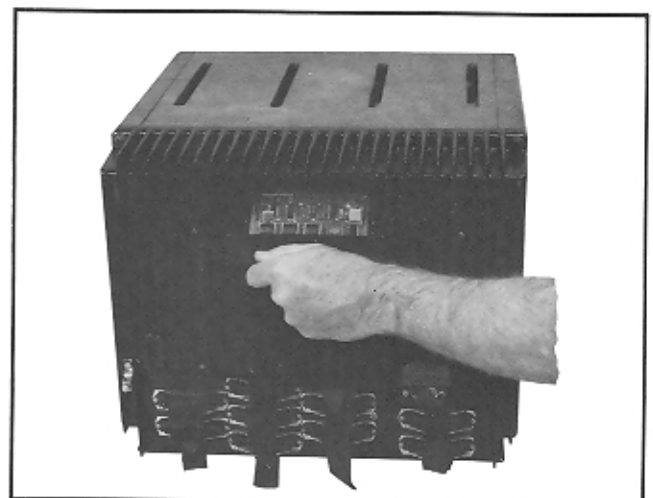

Figure 2-5. Prodigy PABX Cabinet, Rear View
**2.05 EQUIPMENT CABINET.** The equipment cabinet is shown in Figures 2-3 through 2-5. With the exception of the Configuration ROM card, all printed circuit boards are installed by inserting them from the front into the equipment cabinet, as shown in Figure 2-4. The Configuration PROM card plugs into the power supply housing from the rear of the equipment cabinet, as shown in Figure 2-5.